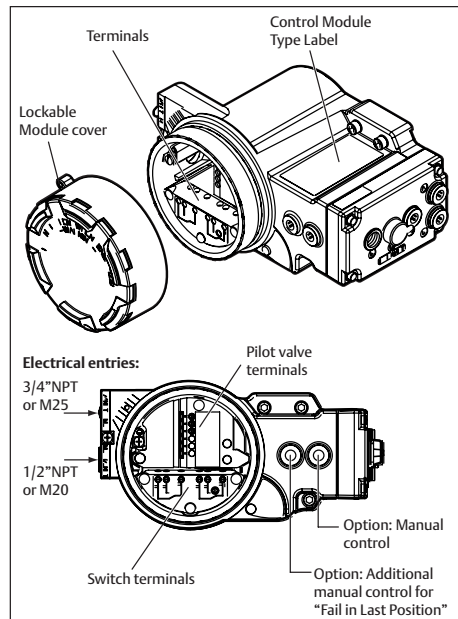

Fig. 4.1 Terminal connections behind cover.
2. Remove control module cover (see Figure 4.1).